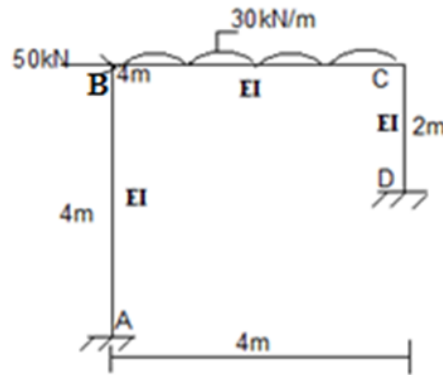

Figure 11
- (b) Analyse the frame shown in Figure 11 by stiffness method. Assume EI constant. [7M]